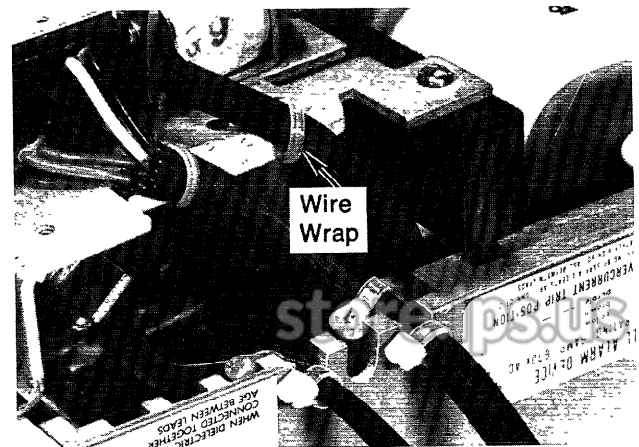

Fig. 7
- Use the wrap provided to secure leads as shown in Fig. 7.